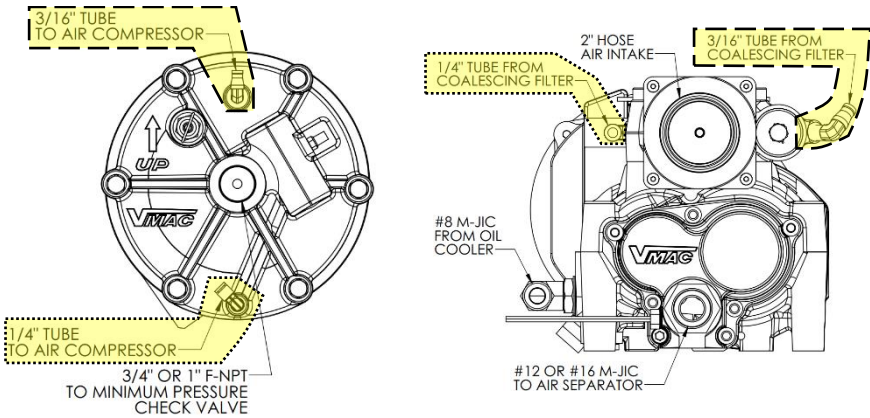

Figure 9 – Scavenge and Pressure Signal Line Connections
- Connect the scavenge line from the top left side of the air compressor to the center bottom of the separation tank (Figure 9 – dotted line). The tube size and type is 1/4" PTFE tube with specialized wall thickness and formula to withstand the high pressures, temperatures, and oil used.
- Connect the pressure signal line from the front top right side of the air compressor to the center top of the separation tank (Figure 9 – dashed line). The tube size and type is 3/16" PTFE tube with specialized wall thickness and formula to withstand the high pressures, temperatures, and oil used.